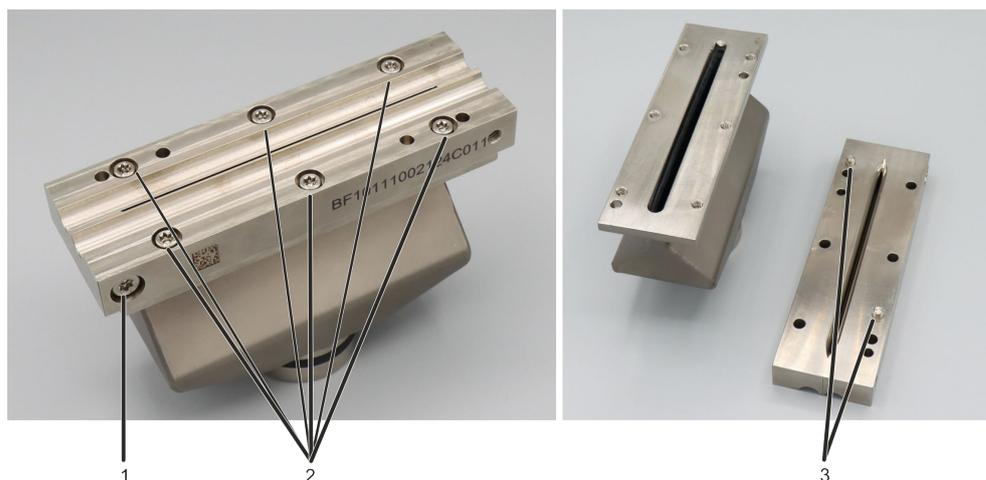

Fig. 57 Burner screw joints
1. Undo the screw joints (item 2 in Fig. 57) of the burner jaws on the burner body and remove the burner jaws.
4. Screw the burner jaws onto the burner body. The dowel pins (3 in Fig. 57) on the burner ensure correct positioning.